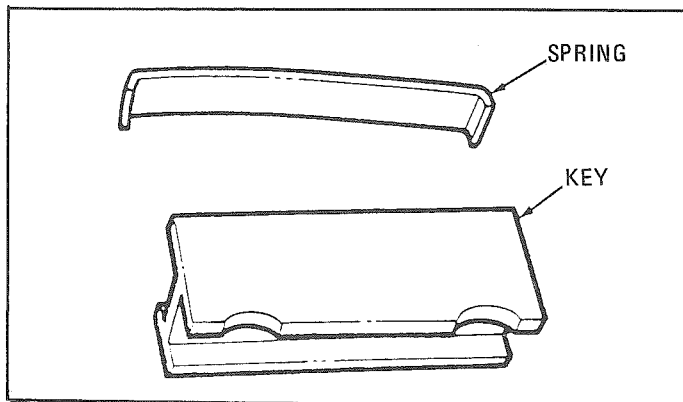

Figure 158 – Caliper Spring and Key
- Secure the key to the support with the key retaining screw, (figure 158). Tighten the screw to 12-20 (lbs.-ft.).